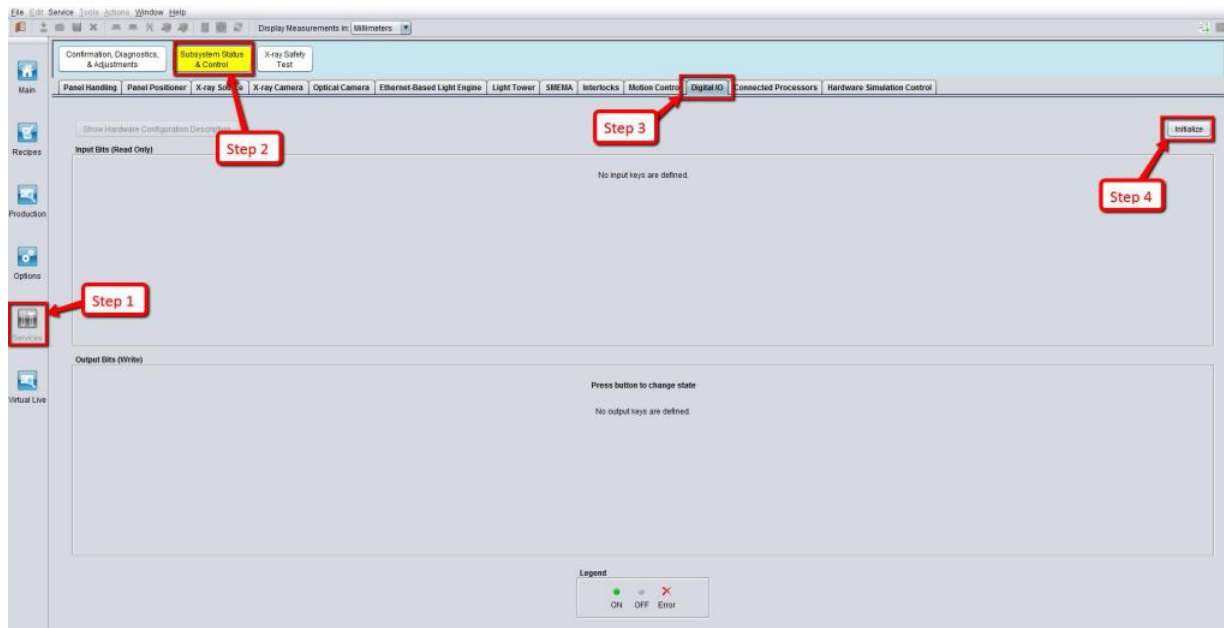

Figure 5 Digital IO
6. Enable “Stage Belts Direction Right To left” as shown in Figure 5. Visual check Belt Turning Direction.